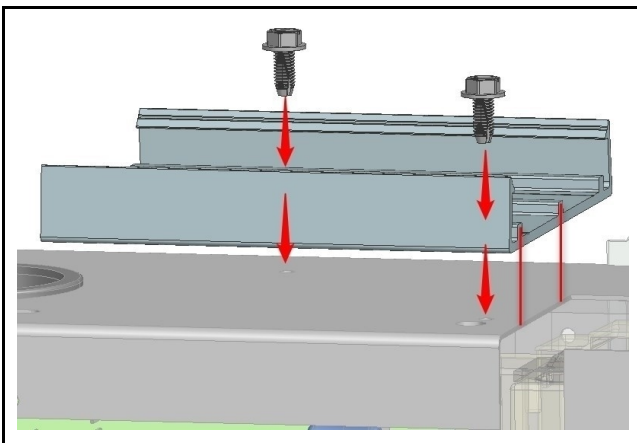

Fig. 5 Installing Mounting Base to the Control Box (SM)
- e. Mount the base using the provided screws (two (2) #8 screws). Refer to Fig. 5.